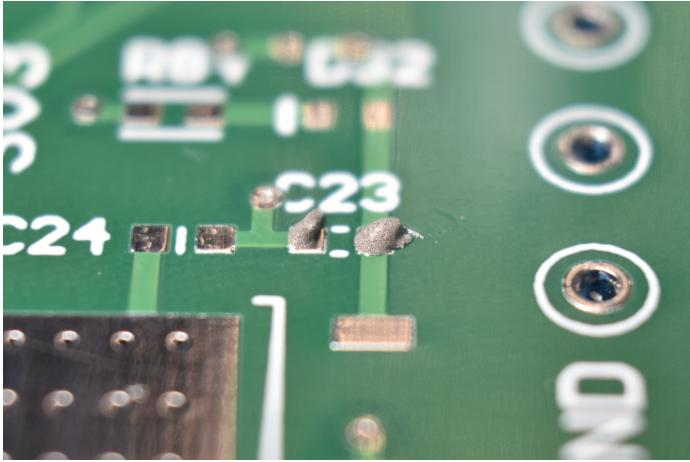

Figure 3: Solder paste applied for a surface mount capacitor.
2. Place solder paste onto each of the capacitor's pads as shown in Fig. 3.